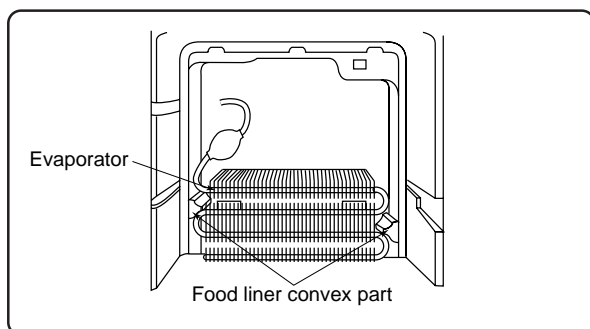
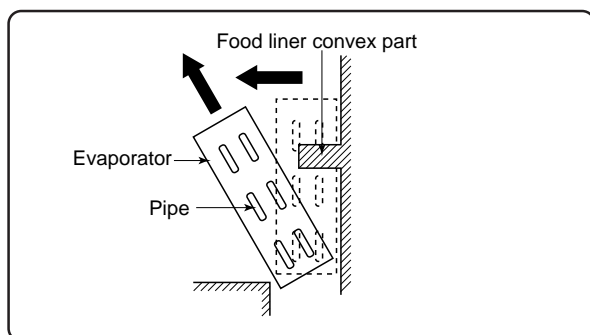

Fig. A-16
Fig. A-17
(1)-1. Take out E.v cover ass'y (Fig. A-16).
(1)-2. As shown in Fig. A-17, pull the upper part of Evaporator toward you, pull it diagonally so that the pipe of Evaporator does not contact the convex part of food liner.
- (3)-1. Install Evaporator as shown in Fig. A-16 in the reverse order of Fig. A-17.